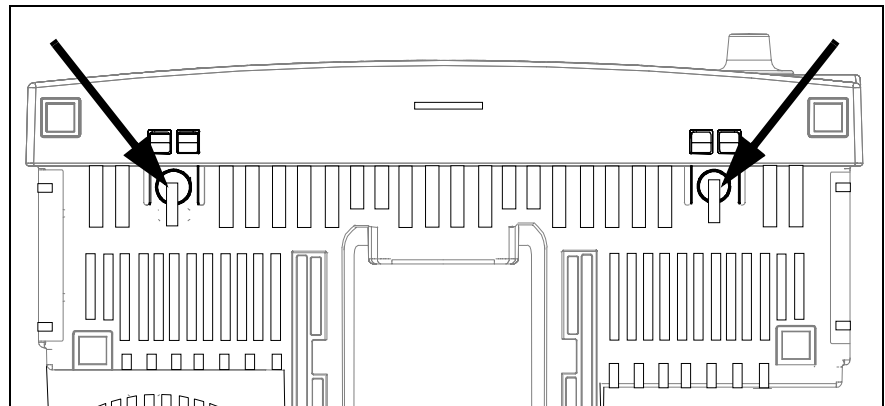

Figure 3-6 Bottom Release Tabs for Front Bezel Subassembly
- 5 Place monitor backside down with bottom of monitor facing you as shown in Figure 3-6.
- 6 Press in firmly on thumb depressions on bottom of monitor to release latches (see arrows in Figure 3-6), and pull up on bezel to slightly separate left side of Front Bezel Subassembly from Rear Housing Subassembly.